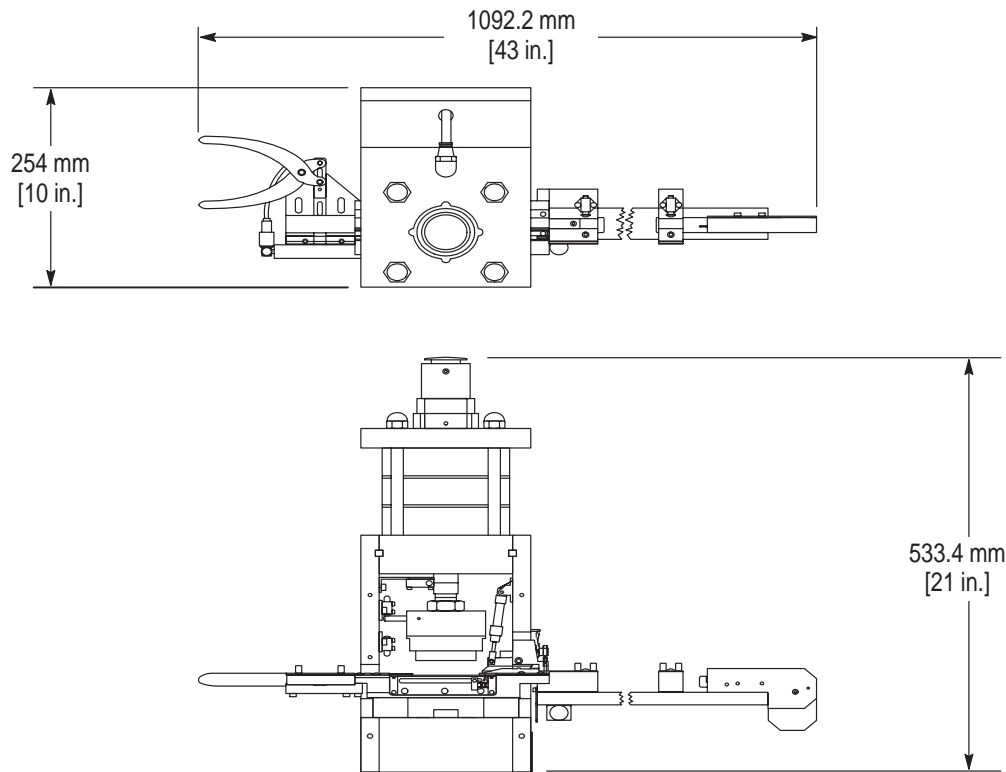

Figure 2
1.1. Specifications (Figure 2)